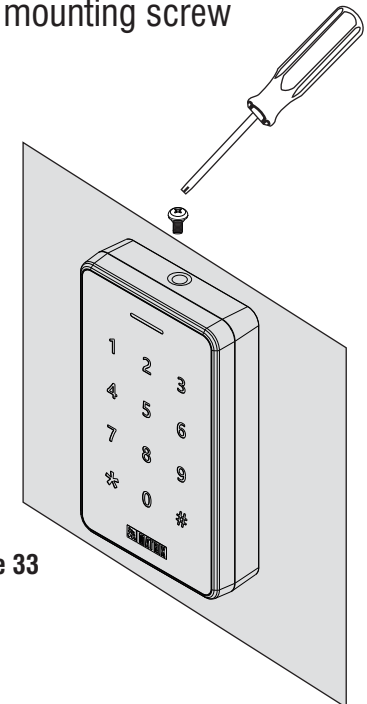

Figure 33
3. Tighten the screw with 2 kgf-cm torque as shown in **Figure 33**.